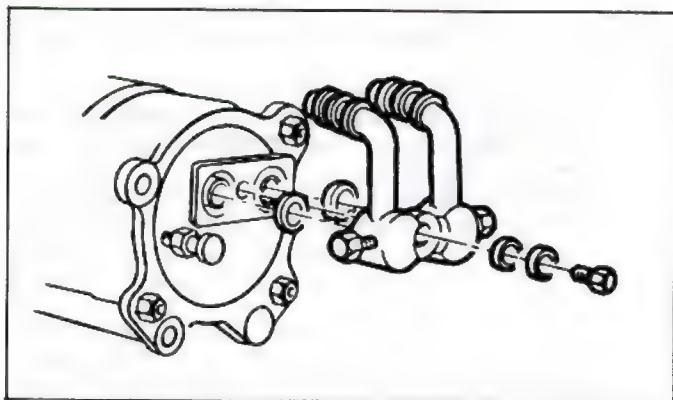

Fig. 16—Compressor Connector
2. With the engine stopped, remove the caps from the cored valve gauge fittings on the compressor connector (See Figure 16).